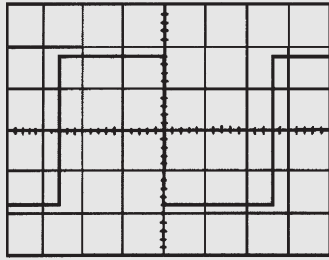

Figure 10.17
**Problem 7.** For the oscilloscope square voltage waveform shown in Fig. 10.17, determine (a) the periodic time, (b) the frequency and (c) the peak-to-peak voltage. The 'time/cm' (or timebase control) switch is on  $100 \mu\text{s/cm}$  and the 'volts/cm' (or signal amplitude control) switch is on  $20 \text{ V/cm}$ .
(In Figs 10.17 to 10.20 assume that the squares shown are 1 cm by 1 cm)